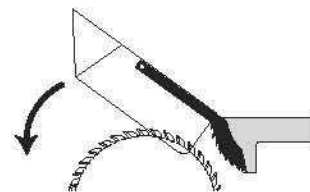

Figure 56. Typical ripping operation.
9. Use a push stick to feed workpiece through saw blade, as shown in **Figure 56**, until workpiece is completely beyond saw blade.